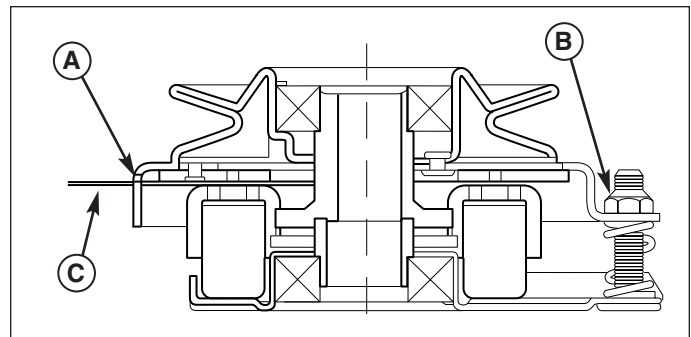

Figure 49. Adjust PTO Clutch
3. Insert a .012"-.015" (2,5-4mm) feeler gauge (C) through each window, positioning the gauge between the rotor face and the armature face as shown in Figure 49.